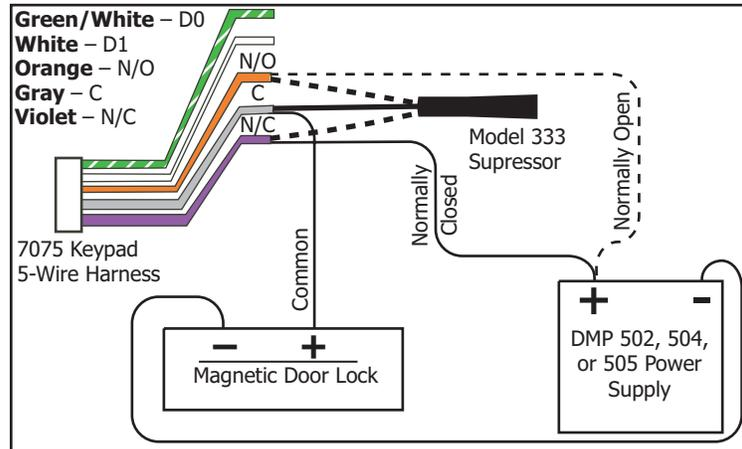

Figure 3: 7075 5-wire Harness and Suppressor Installation
One Model 333 Suppressor is included with the 7075 Keypad. Refer to Figure 3 and install the suppressor across the 5-wire output/reader harness Common (C) and Normally Open (NO) or Normally Closed (NC).